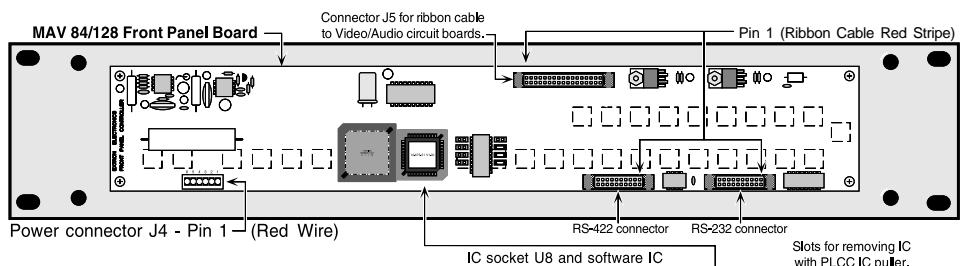

Figure A-3.A Locating the Software IC Chip
2. Place the front panel (buttons down) on a suitable work-space. Locate the Software IC using Figure A-3.A as a guide.
3. (Be sure you are electrically grounded.) Use the PLCC IC puller (Figure A-3.B) to remove the existing Software chip. Squeeze the tool to align the hooks with the slots provided in opposite corners of chip socket U8. Insert the hooks, squeeze gently and pull the IC straight out of the socket. Set the chip aside.